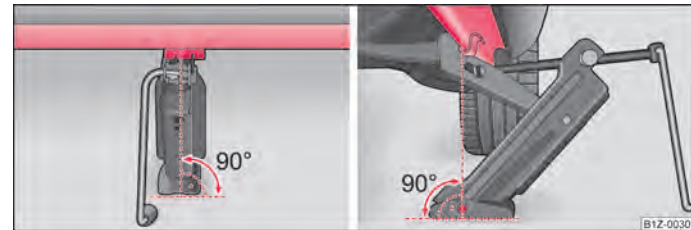

Fig. 139 Attach lifting jack
- Align the lifting jack so that its claw grasps the web ⇒ fig. 139 at the right below the embossing in the side surface of the base plate.
- Make sure that the base plate of the lifting jack rests with its entire surface on level ground and is located vertical to the point ⇒ fig. 139 where the claw grasps the web.